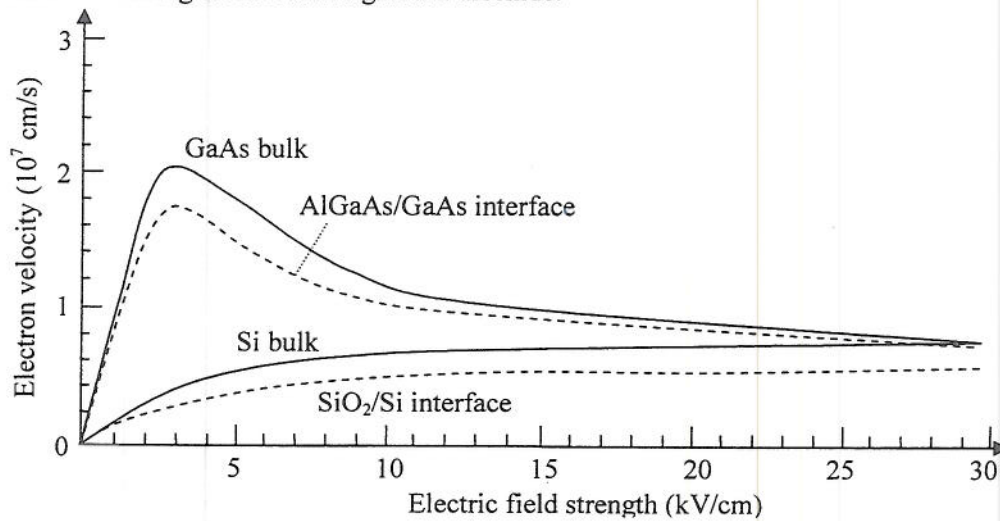

Figure 3.1: The electron velocity as a function of the electric field for different semiconductors (full lines) and different interfaces (dashed lines).
3. Figure 3.1 gives the variation of the electron velocity as a function of electric field for carriers travelling in silicon and gallium-arsenide.
- Extract an approximate mobility value for the electrons, μ_n in bulk Si and bulk GaAs from the graphs in Figure 3.1. Show your working out. [4]